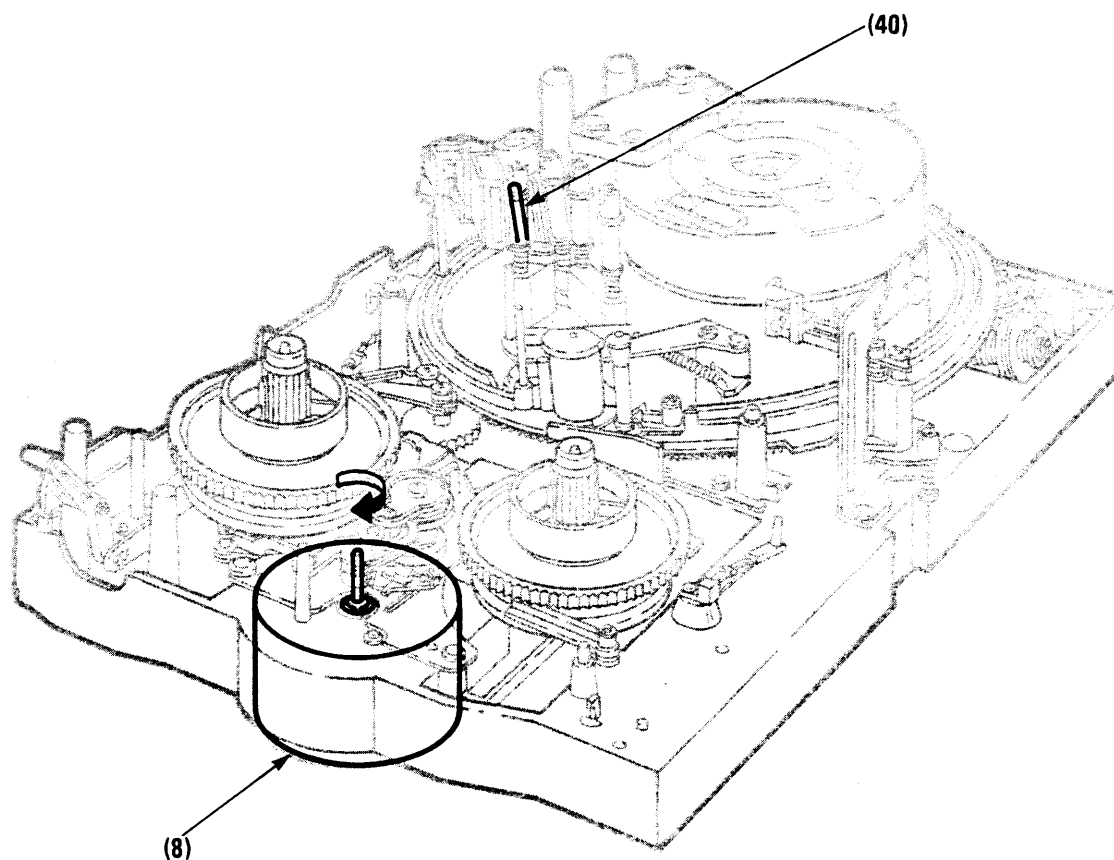

Fig. 3-3-24 PAUSE mode
9. PAUSE MODE (See Fig. 3-3-24.)